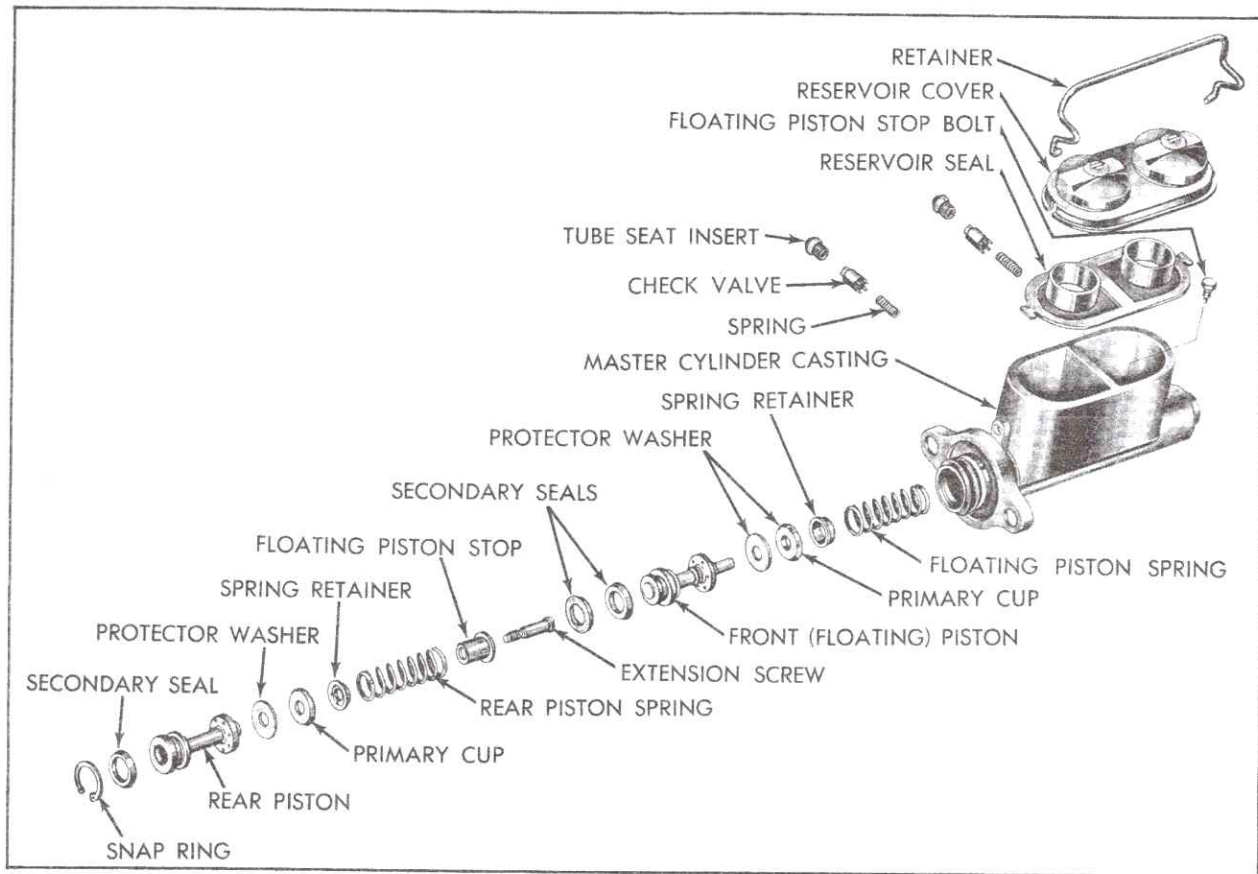

Fig. 5-20 Delco Moraine Master Cylinder Disassembled
## 18. Delco Moraine Master Cylinder Disassembly, Cleaning, Inspection and Assembly, Fig. 5-20
11. From cavity beneath each tube insert, remove rubber check valve and check valve spring, Fig. 5-20.
1. Position master cylinder in vise with outlet holes up, and install valve springs in outlet holes so that they seat in depression in bottom of holes, Fig. 5-20.
6. Install new secondary seal in groove at end of floating piston, back-to-back with secondary seal in center groove, Fig. 5-20, so that lips face toward that end.